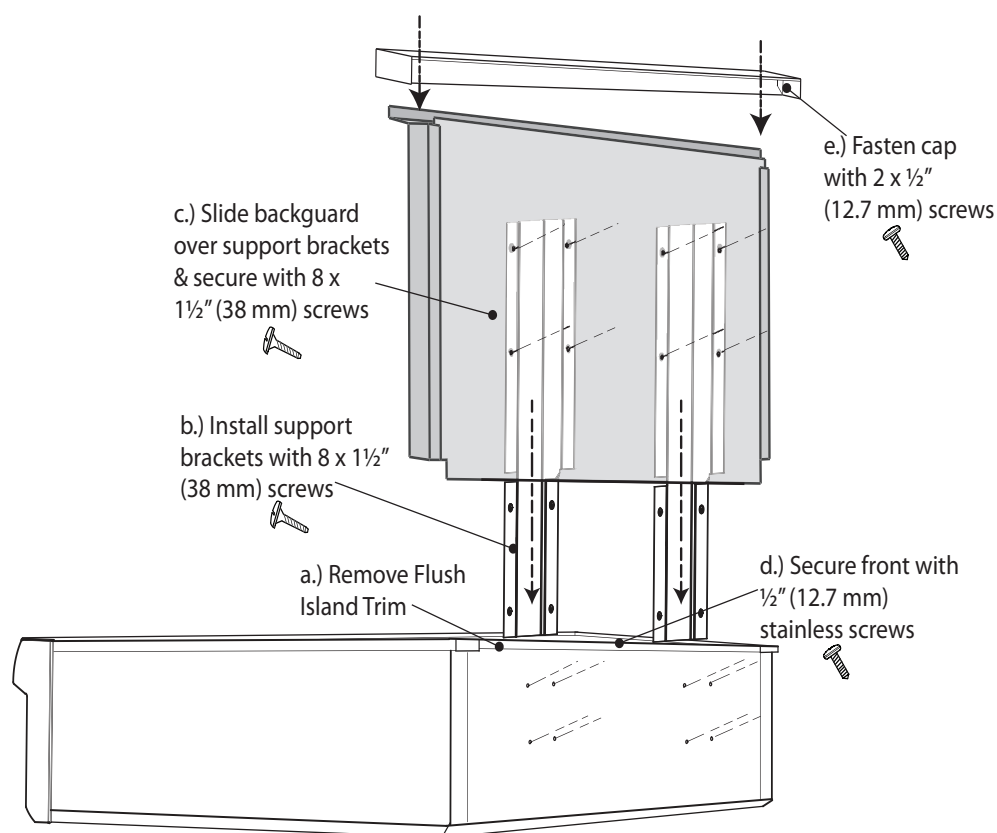

Figure 12: Low Back Attachment
- Depending on model, remove the 2 or 3 stainless Torx screws in the front face of the included Flush Island Trim. Lift up to fully remove the Flush Island Trim (A, *Figure 12*).
- Slide the support brackets between the two rangetop chassis back panels. Secure each bracket with 4 x 1½" (38 mm) screws (B, *Figure 12*).
- Slide backguard over the two brackets on the rear of the rangetop. Fasten them together with 8 x 1½" (38 mm) screws (C, *Figure 12*).
- Fasten the front of the backguard to the rangetop with 2 or 3 x ½" (12.7 mm) screws (D, *Figure 12*).
- Place the backguard cap on top and secure using 2 x ½" (12.7 mm) stainless screws (E, *Figure 12*).